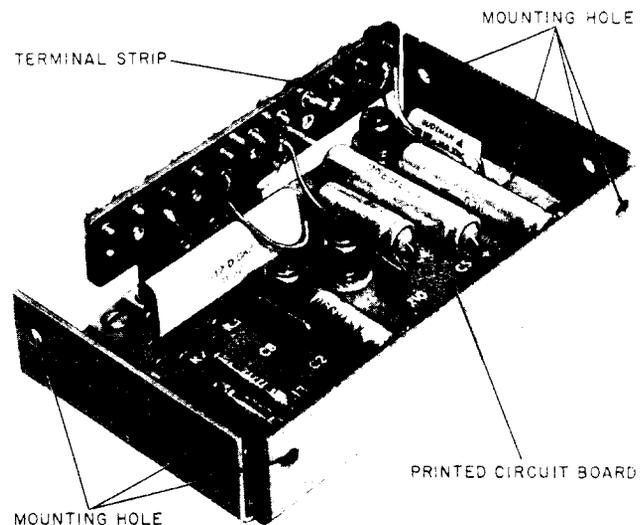

Fig. 1—236A Amplifier
2.01 The *236A* amplifier (Fig. 1) consists of a printed circuit transistorized unit mounted on a metal base. A terminal strip with eleven screw-type terminals permits interconnections between the amplifier and other components with which it is associated.